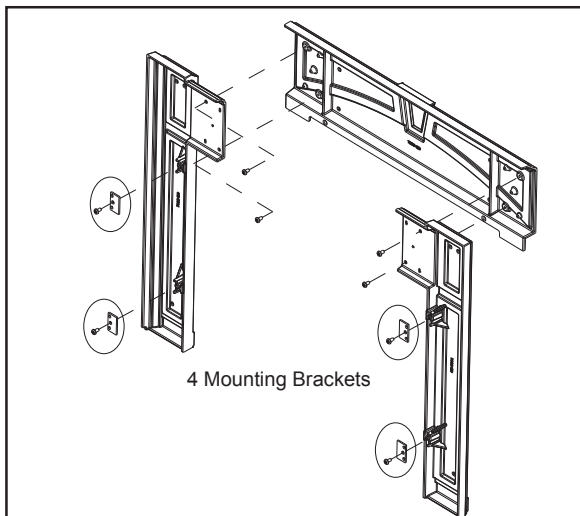

Figure 23.1
4. Attach the mounting brackets to the side pieces included with the kit. **Figure 23.1.**